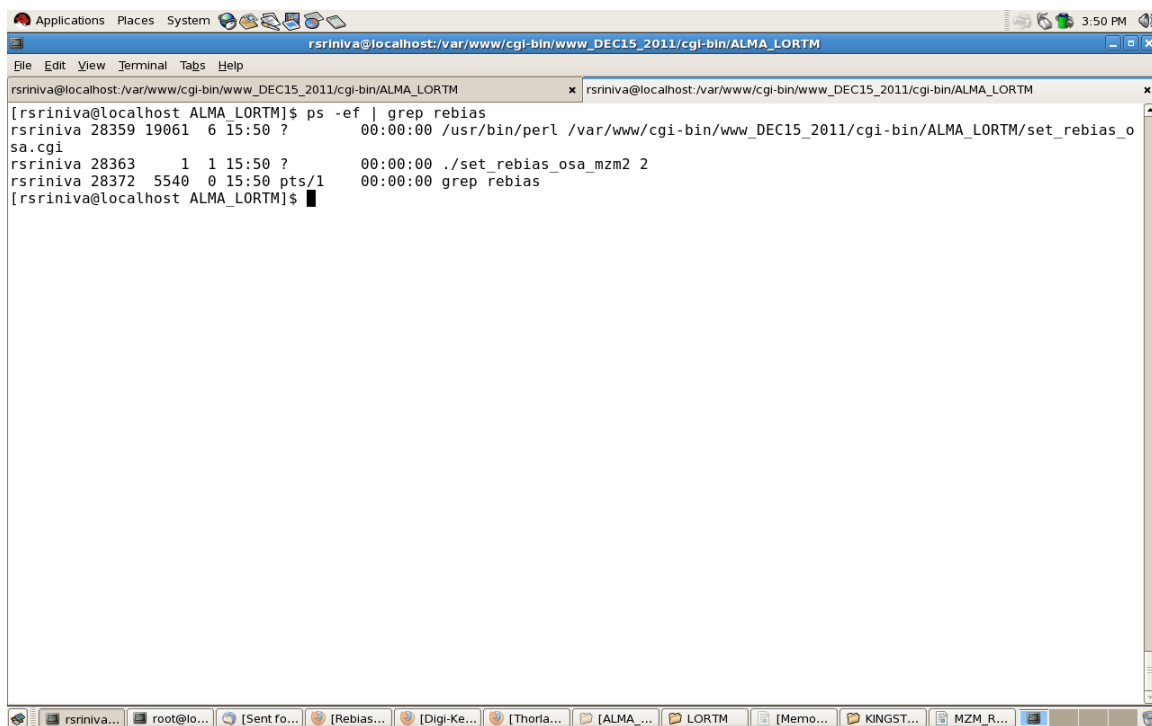

Figure 19 Correct output for a 'ps -ef | grep rebias' command
- Please wait for about 5 minutes and make sure that the jobs are still active by opening a terminal window and typing **“ps -ef | grep rebias”**. You should see ONLY processes with ‘rebias’ in their names. The two processes that are of interest will be (refer to Figure 19)